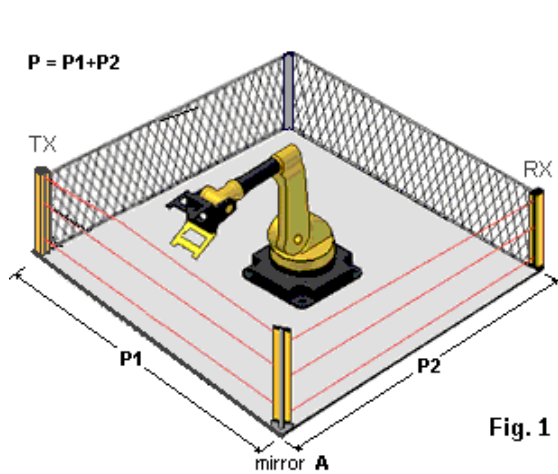

Fig. 1
- Protection to “L” shape when the unit must protect 2 sides with the employ of 1 mirror as fig. 1
This solution allows to protect the 4 sides as in the previous case, but with the use of two mirrors and two light curtains. The alignment should be done as shown in the first reference (fig.1) but acting independently on two combinations of mirrors / barriers.